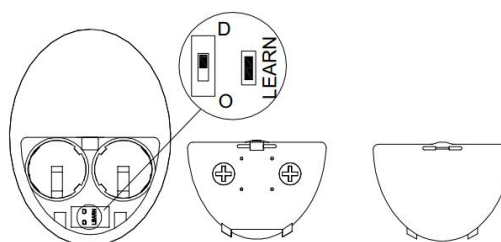

FIG. 4
1. If the ceiling fan has fluorescent lighting, please slide the “light function select switch” to “O” position. If the ceiling fan has incandescent or halogen lighting, please slide the “light function select switch” to “D” position. (FIG. 4)
Activating the Learning process: Turn on the receiver power, press and hold the LEARN key (on the back of the transmitter) for 1~3S. Refer to FIG. 4